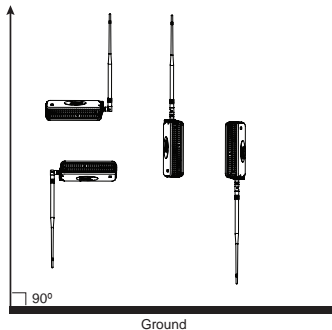
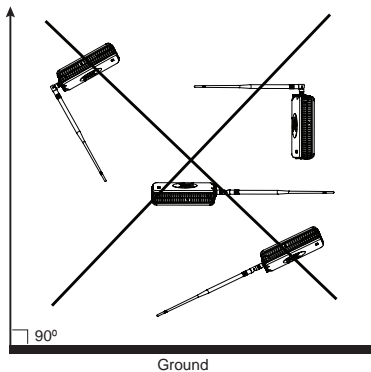

Figure 10a. Examples of Correct Dipole Antenna Orientation
Figure 10b. Examples of Incorrect Dipole Antenna Orientation
2. Make sure the dipole antenna is mounted vertically (90 degrees) in reference to earth ground (either up or down). Please refer to “Figure 10a. Examples of Correct Dipole Antenna Orientation” on page 21 and “Figure 10b. Examples of Incorrect Dipole Antenna Orientation” on page 21 for examples of incorrect antenna positioning.